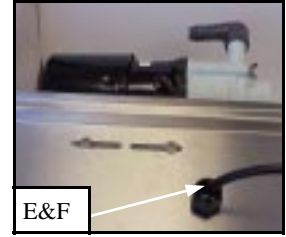

Fig. 3
7- Install the strain relief (E) using nut (F) on electrical slide base (N) as shown. Guide the pump motor cable up through the hole on strain relief and to control box and secure cable with strain relief nut (F) as shown in Fig. 3.